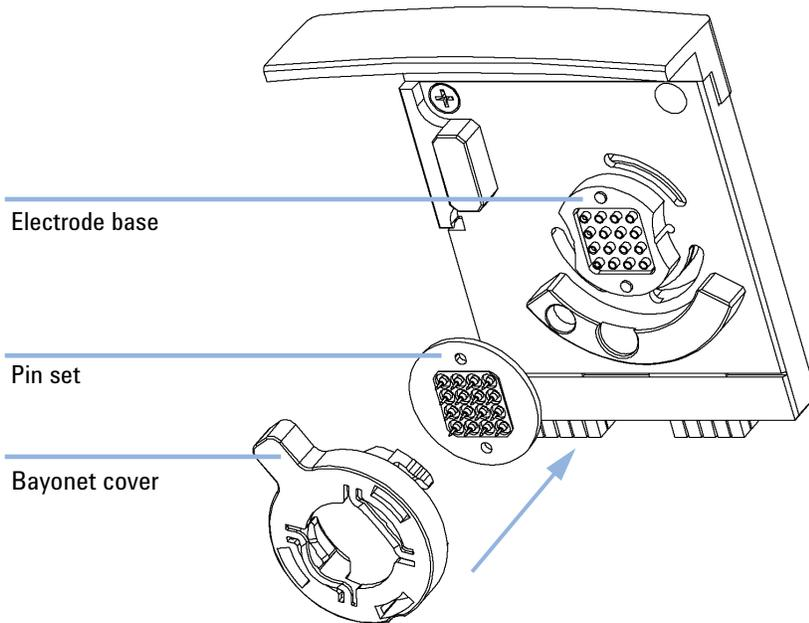

Figure 5 Inserting the Pin Set
- 1 Put the pin set on the cartridge base and the bayonet cover on the pin set (see Figure 5).